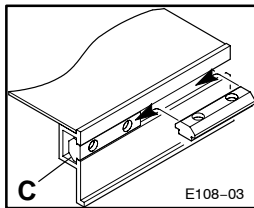

Figure 3: Drop-in T-bar Installation Detail
- a. Insert a Drop-in T-bar into conveyor T-slot by rolling it into position (Figure 3).